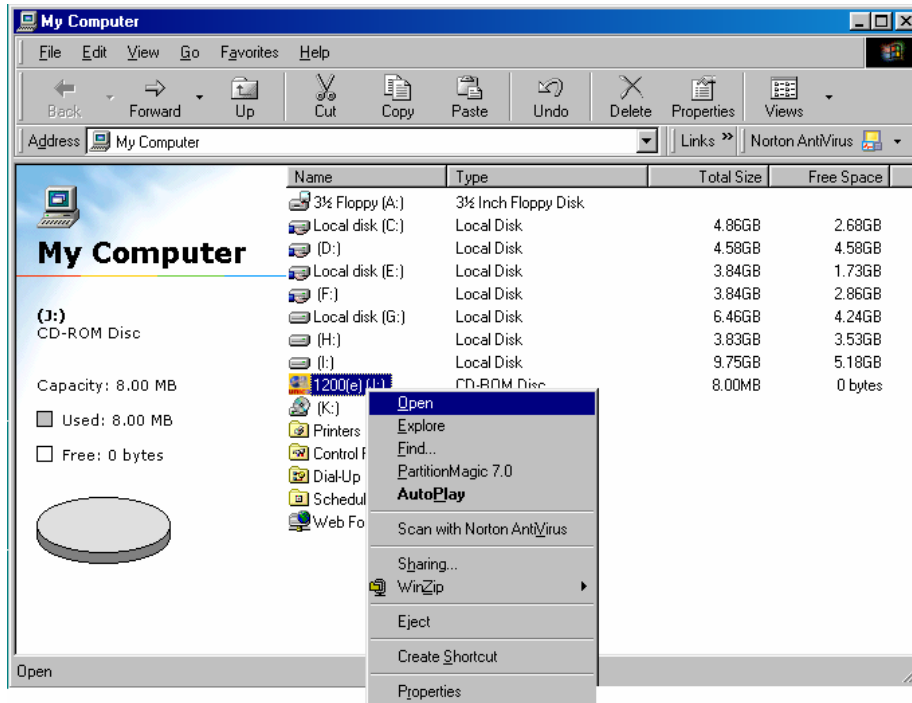

Figure-3 Open the CD
- Step 3: Right click the CD Drive Label and click **Open** as shown in Figure-3